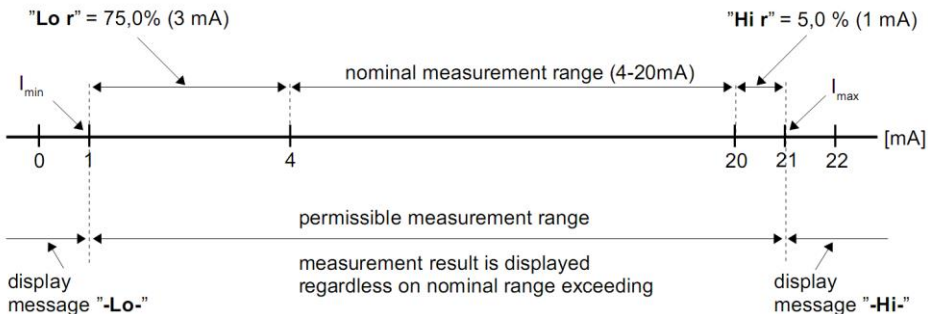

Figure 6.3 Example of definition of permissible range of input signal - "Lo r" and "Hi r" parameters ("4-20" mode)
- these parameters define the expansion of nominal range in percent. They determine the permissible range of input signal (Figure 6.3).